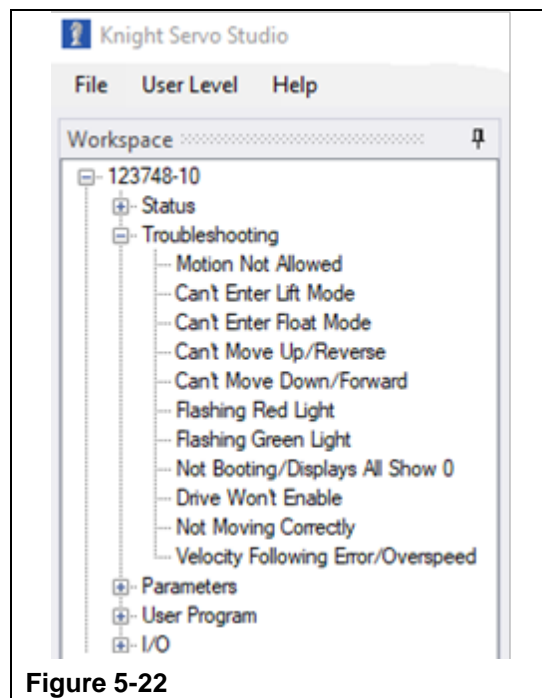

Figure 5-22
- Step 23. If the unit doesn't work properly, follow the troubleshooting screens located inside the Knight Servo Studio under the Troubleshooting branch of Workspace directory tree. (Refer to Figure 5-22)